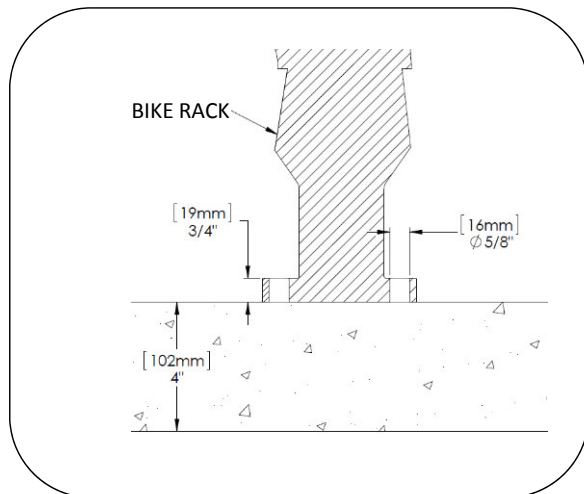

Fig. 4. – Anchor hole clearance for surface mount
- For surface mount option: stainless steel anchoring hardware, (2) required per unit (not included). Landscape Forms, Inc. recommends maximum 12mm dia bolt, with a minimum embedded depth of 80mm (see Fig. 4 for bolt clearances).
1. Set unit in place and install anchor bolts (not supplied by Landscape Forms) according to anchor manufacturer's instructions. See Fig. 4 for anchor hole clearances.